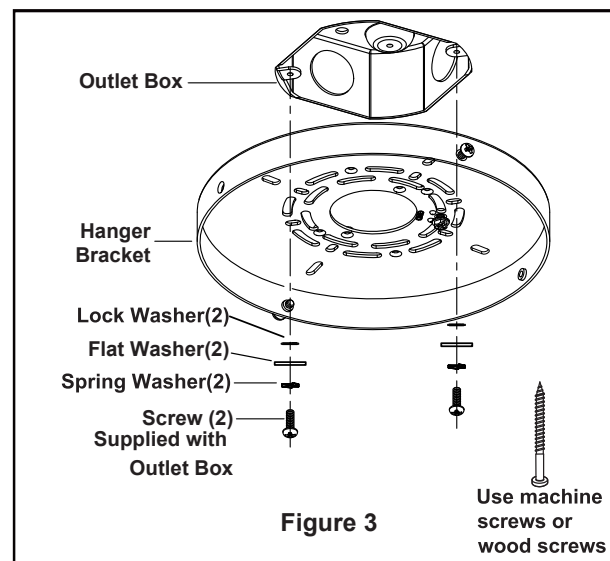

Figure 3
- ☐ Securely attach the hanger bracket to the outlet box using the outlet box screws and washers supplied with the outlet box. (Figure 3)